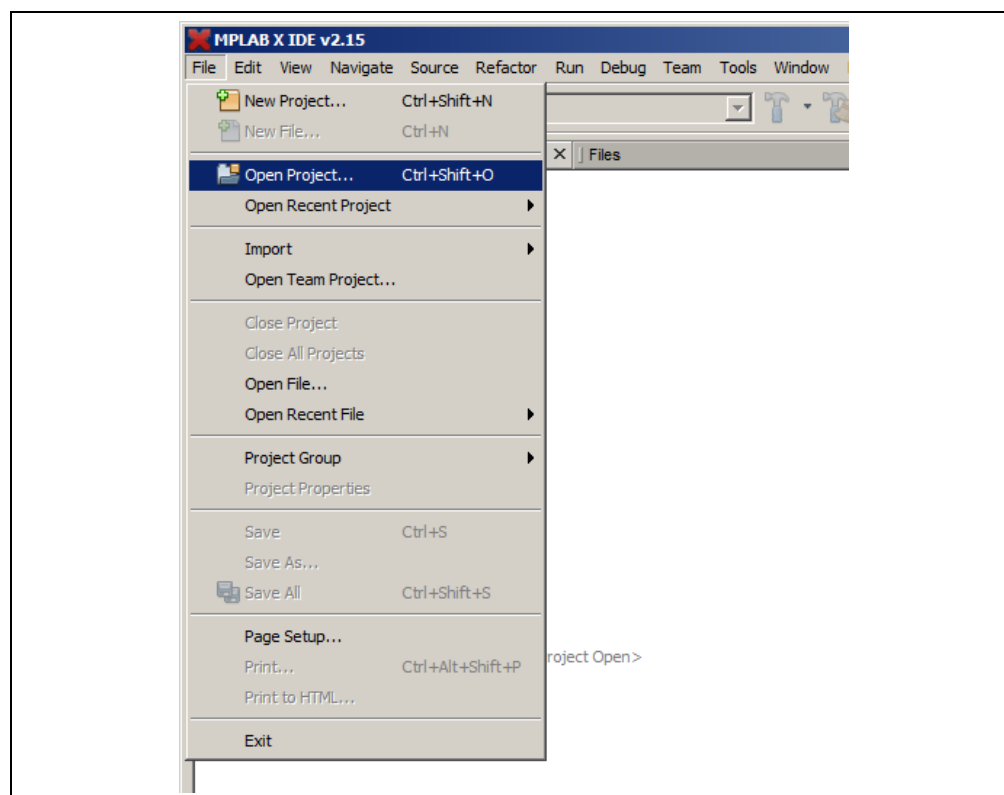

FIGURE 3-8: Opening Project in MPLAB® X IDE.
7. Open MPLAB X IDE to load the MCP19111 Battery Charger Evaluation Board firmware. From the File menu, select Open Project (Figure 3-8).